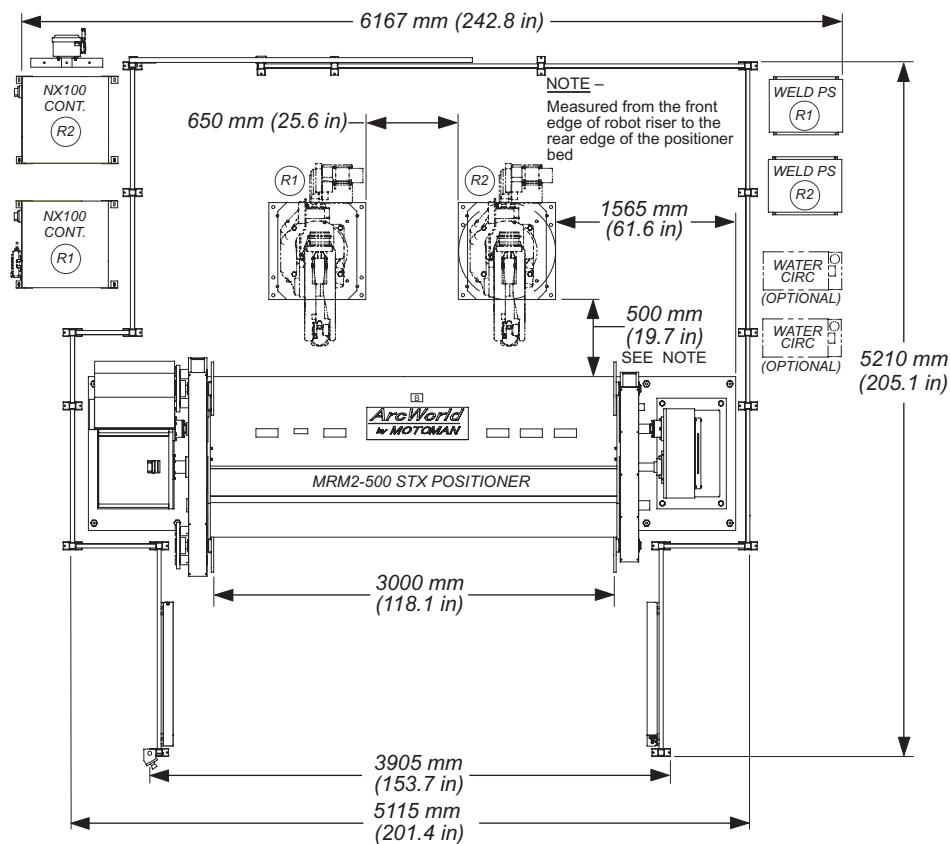
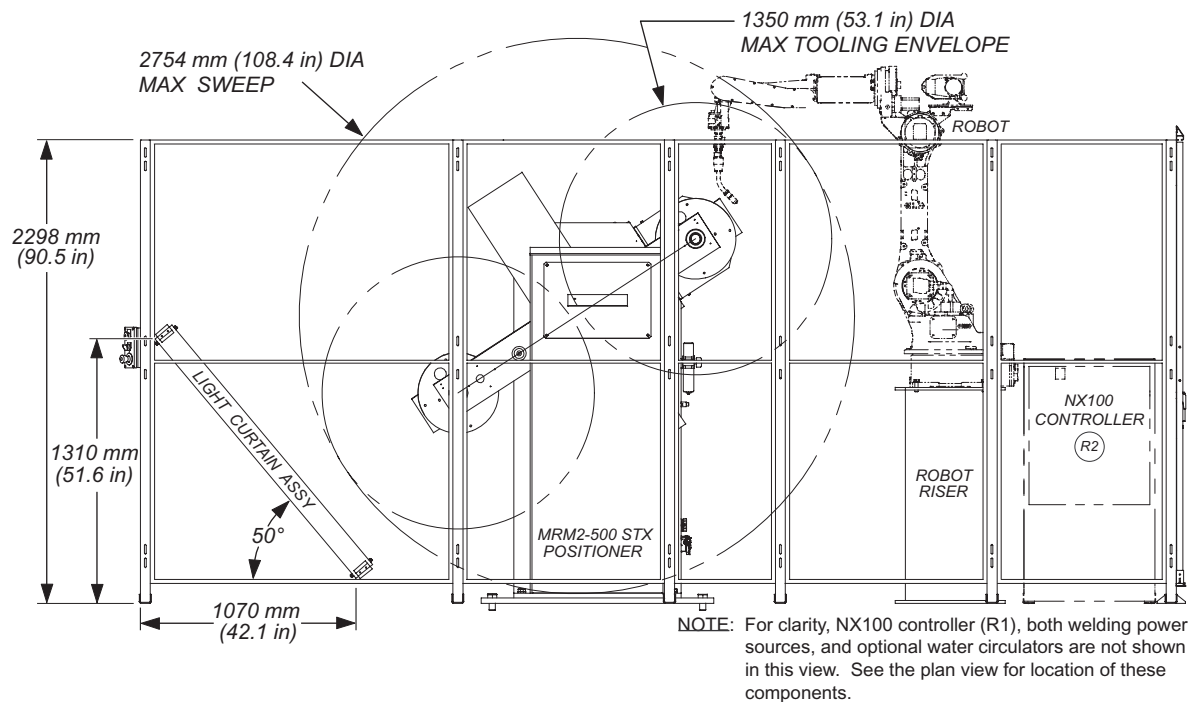

Figure 7 ArcWorld®II-6200HD – Installation Dimensions and Component Locations (Plan View)
Figure 8 ArcWorld®II-6200HD – Installation Dimensions and Component Locations (Elevation View)
1. Clear floor space and overhead area needed for the ArcWorld®II-6200HD system (see Figure 7 and Figure 8). Allow an additional 1.2 - 1.5 m (4 to 5 ft) on all sides of the work cell to provide the room needed for installation.
To make sure the ArcWorld®II-6200HD work cell is complete and to verify the correct amount of floor space for the installation, Motoman recommends that all system components (except the safety arc curtains) be set in place prior to anchoring the components to the foundation. See Figure 7, Figure 8, and the system drawings supplied with your ArcWorld®II-6200HD system to correctly place system components.
1. Place the MRM2-500 STX positioner to define the front of the cell (see Figure 7).
2. Place the robots (with risers) in the specified location relative to the positioner (see Figure 7).
3. Interconnect the safety fence panels and place them in position so that they enclose the work cell (see Figure 7 and refer to fence installation documentation that is supplied with the ArcWorld®II-6200HD system).
4. Ensure that the final placement of the assembled safety fence conforms to the placement dimensions shown in Figure 7.
5. Install the work cell sliding door to the safety fencing (refer to Figure 7 and the safety fencing documentation that is supplied with the ArcWorld®II-6200HD system).
7. Place the NX100 controllers and welding power sources (see Figure 7 and the ArcWorld®II-6200HD system drawings for the correct location for these components).
1. Connect one end of an earth ground wire to the lug marked EARTH GROUND on the connector panel of robot (R1). Connect the other end of the earth ground wire to the low-resistance earth ground. See Figure 7 for location of robot (R1).
2. Connect one end of an earth ground wire to the lug marked EARTH GROUND on the connector panel of robot (R2). Connect the other end of the earth ground wire to the low-resistance earth ground. See Figure 7 for location of robot (R2).
3. Connect one end of an earth ground wire to the COMMON GROUND BUS BAR located inside NX100 master controller (R1). Connect the other end of the earth ground wire to the low-resistance earth ground. See Figure 7 for location of NX100 master controller (R1).
4. Connect one end of an earth ground wire to the COMMON GROUND BUS BAR located inside NX100 controller (R2). Connect the other end of the earth ground wire to the low-resistance earth ground. See Figure 7 for location of NX100 controller (R2).
An electrical service disconnect box for the NX100 controllers is supplied with your ArcWorld®II-6200HD system. Electrical power must be routed from this disconnect box (see Figure 2 and Figure 7) to each NX100 controller. For detailed electrical service interconnect procedures for the NX100 controllers, refer to the *NX100 Controller Manual* and ArcWorld®II-6200HD system drawings / schematics that are included with the ArcWorld®II-6200HD system documentation package (refer to Section 1.3).